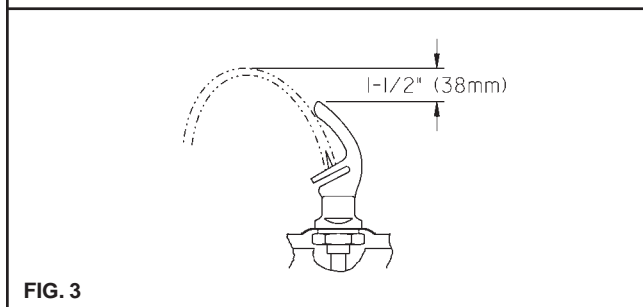

FIG. 3
8. **Check stream height from bubbler.** Stream height is factory set at 45-50 PSI. If supply pressure varies greatly from this, adjust the screw on regulator (item 14, on page 1). Clockwise adjustment will raise stream height and counter-clockwise will lower stream height. For best adjustment stream height should be approximately 1-1/2" (38mm) above the bubbler guard. (See Figure 3)